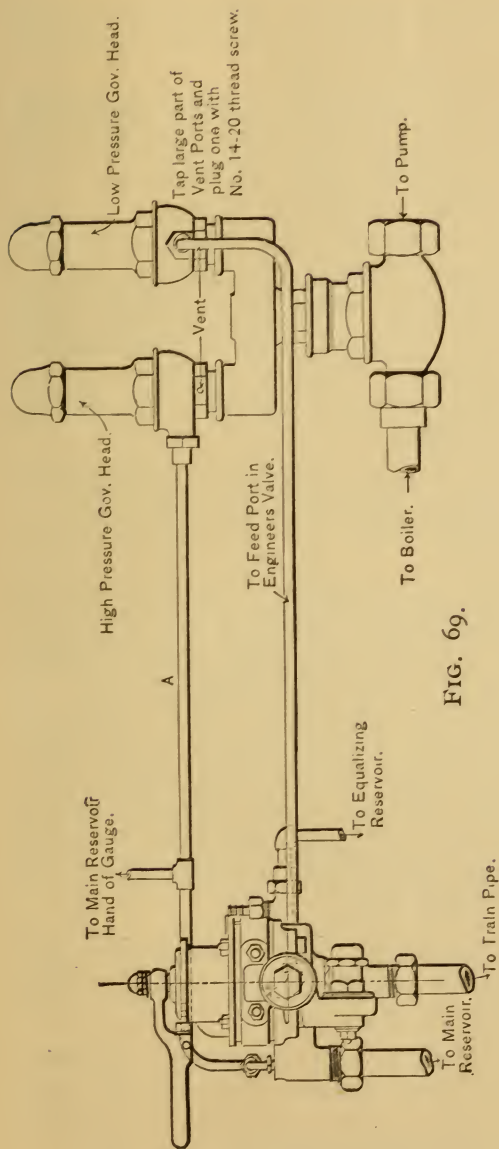

FIG. 69.
Q. What is the special object to be obtained with the equipment shown in Figs. 69, 70 and 71?
A. As indicated on Fig. 69, the pipe leading to the low pressure head is also connected at the brake valve to a hole drilled into the port, which, in running position, conveys air to the feed valve. This port contains main reservoir pressure, with the brake valve in this position, and as soon as main reservoir pressure reaches that for which the low pressure head is adjusted, usually 85 pounds, the pump is stopped.